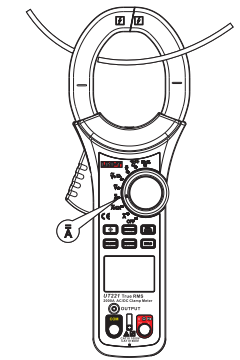

Figure 9
7. DC current measurement () (See Figure 9)